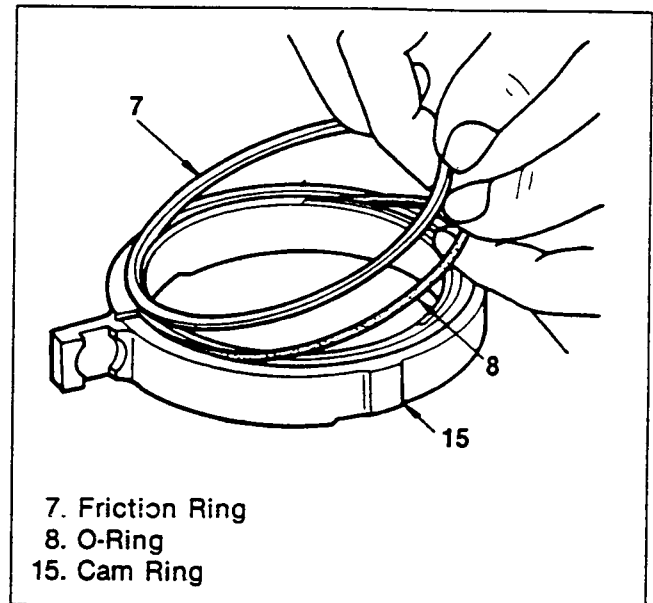

Figure 66. Oil Pump Inspection (2)
3. Inspect the friction ring of the cam ring for damage and unusual wear (figure 66).